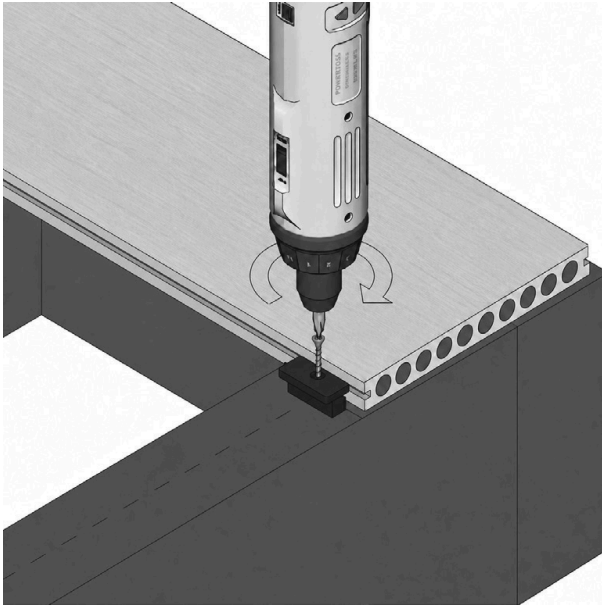

FIG. 4 - SECURE SCREW DRIVEN INTO THE HIDDEN FASTENER
- 03 For 6 mm hidden clips, lightly screw in place; do not tighten at this point (fig. 4). For 3 mm hidden clips, fully tighten the screw at this point.